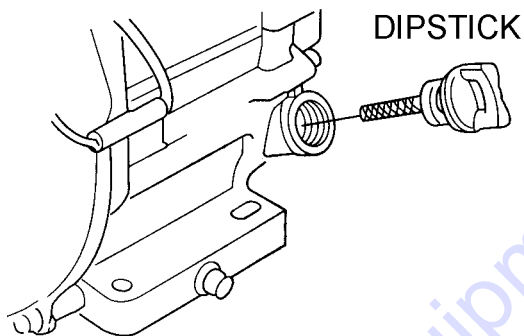

Figure 29. Engine Oil Dipstick Removal
Refer to Figure 29 for the pitch and winch cable installation instructions.
2. Remove the dipstick from the engine oil filler hole (Figure 29) and wipe clean.